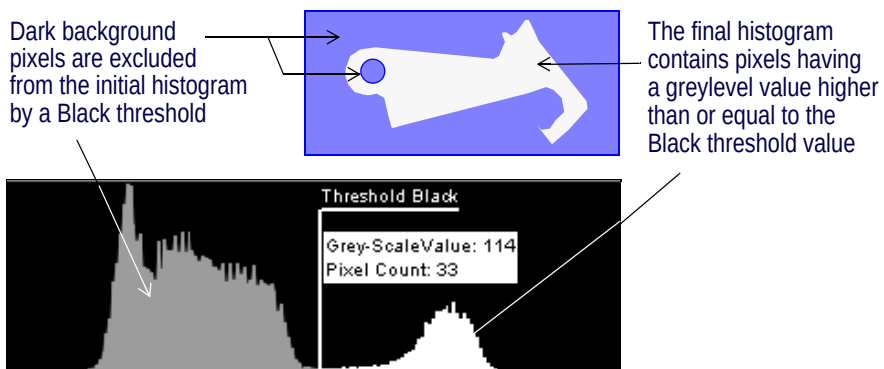

Figure 386 Applying a Threshold to Exclude Background Pixels
- The example illustrated Figure 386 demonstrates the use of a threshold to remove background pixels surrounding an object of interest.